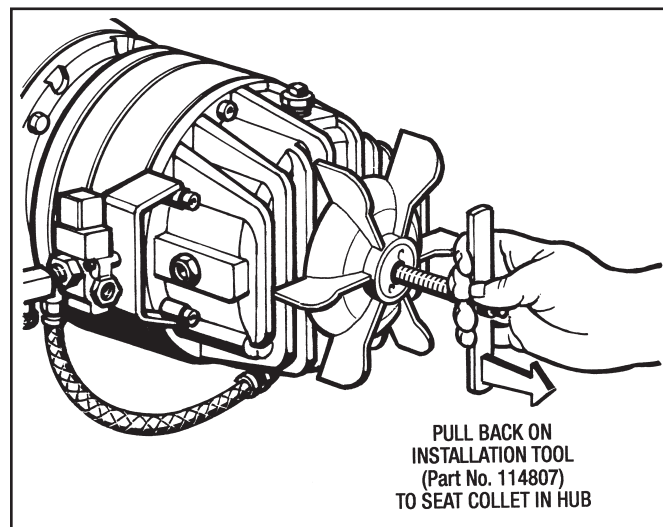

Figure 3.6 - Seating Collet into Hub
- Reattach the handle to the Installation Tool and manually pull back to seat the Collet (#110) into the Hub (#2) bore as shown in Figure 3.6.